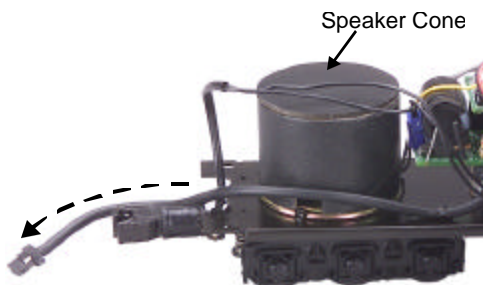

Fig 1. Feeding the Wiring Harness Through the Floor of the Coal Tender
2. Upon removing the tender body, identify the wire harness, which should be secured inside the chassis near the Coal Tender's speaker cone. Refer to figure 1 and follow how the wire harness is fed through the hole at the rear of the floor/chassis. Be sure not to bind or twist the harness during this process.